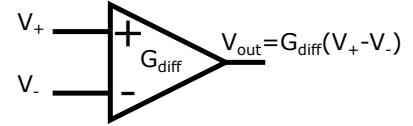

Figure 15: A Differential Amplifier.
*differential amplifier* may be used. As diagrammed in figure 15, a differential amplifier has two inputs and a single output corresponding to the difference between the signals. This operation can be seen as first inverting one input and then adding it to the other. The input which is inverted  $V_-$  is fittingly called the “inverting input”, while the normal input is verbosely titled the “non-inverting input”,  $V_+$ . The multiplication factor is known as the “differential gain”  $G_{\text{diff}}$  and is defined through the relation